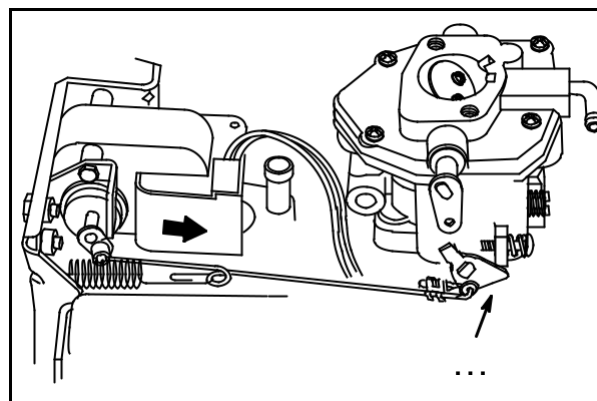

Fig. 56
Actuator should move throttle lever to wide open position (5), **Fig. 56**.